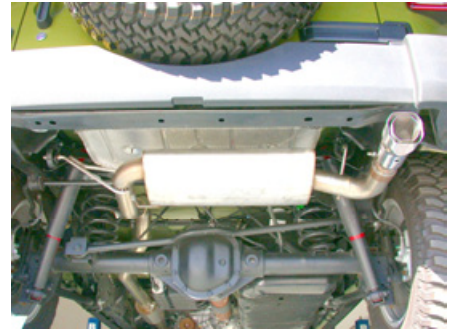

Figure 3
1. Place a clamp over the expanded end of the muffler assembly and set it into position as shown in figure 3. Do Not tighten the clamp.
2. Place a clamp over the expanded end of the tip assembly and set it into position as also shown in figure 3. Do Not tighten the clamp.